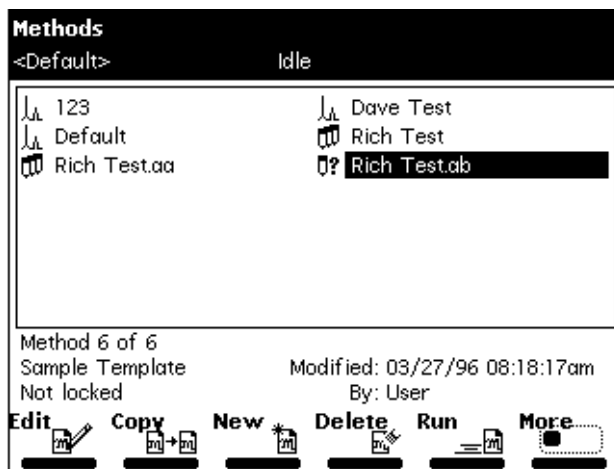

Figure 6-2 Methods Screen
1. Press the **Develop Methods** screen key in the Main screen. The Methods screen (Figure 6-2) appears, displaying the: